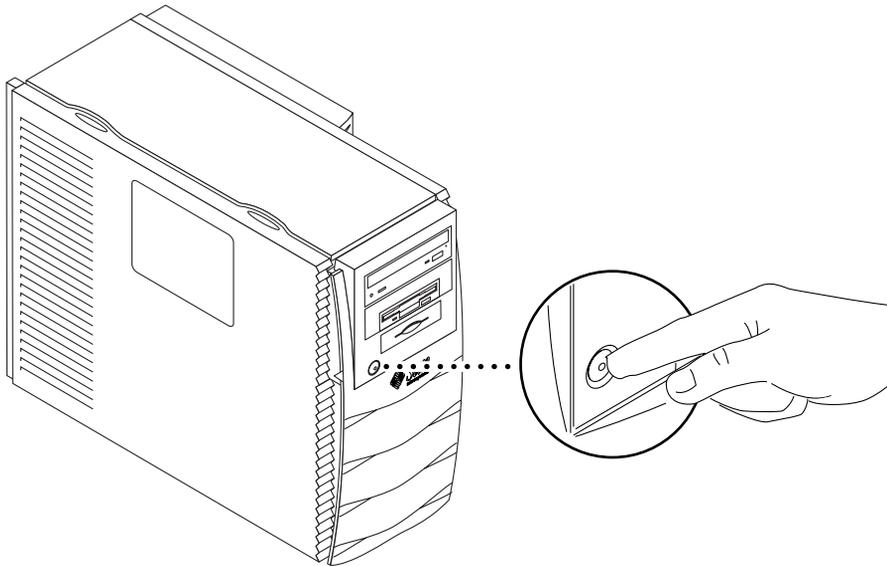

FIGURE 5-1 System Power Switch
- i. **Press and release the front panel Power switch (FIGURE 5-1) to automatically shut down all programs, the operating system, and to power off the system.**
- i. **Press the front panel Power switch (FIGURE 5-1) to power off the system.**
- c. **If the system is at the “ok” prompt (OpenBoot interface) press and hold the front panel Power switch for four seconds (see FIGURE 5-1) to power off the system.**